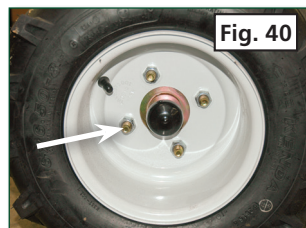

Fig. 40
1. Make sure the SuperHauler engine is turned off. Then remove the four nylon insert lock nuts with a 3/4" socket. (Figure 40)